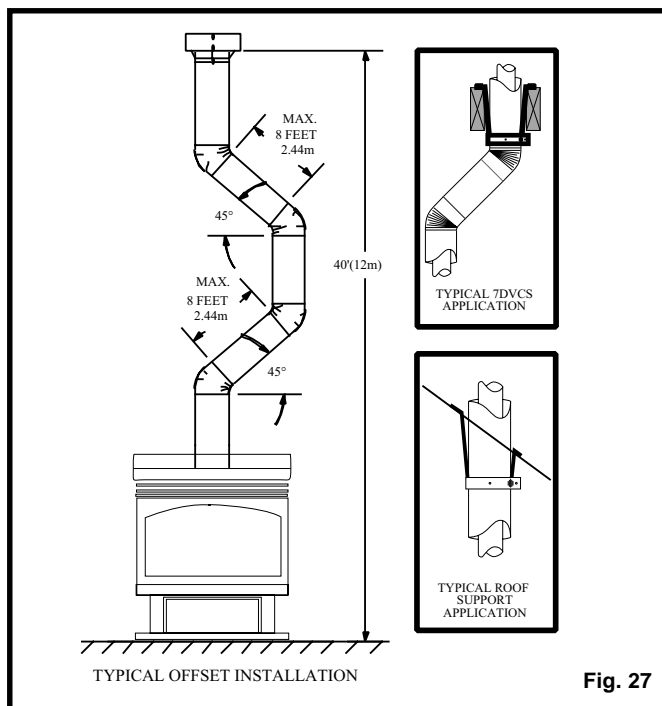

Fig. 27
7. Install roof support (Fig. 27) and roof flashing, making sure upper flange of flashing is below the shingles (Fig. 30).